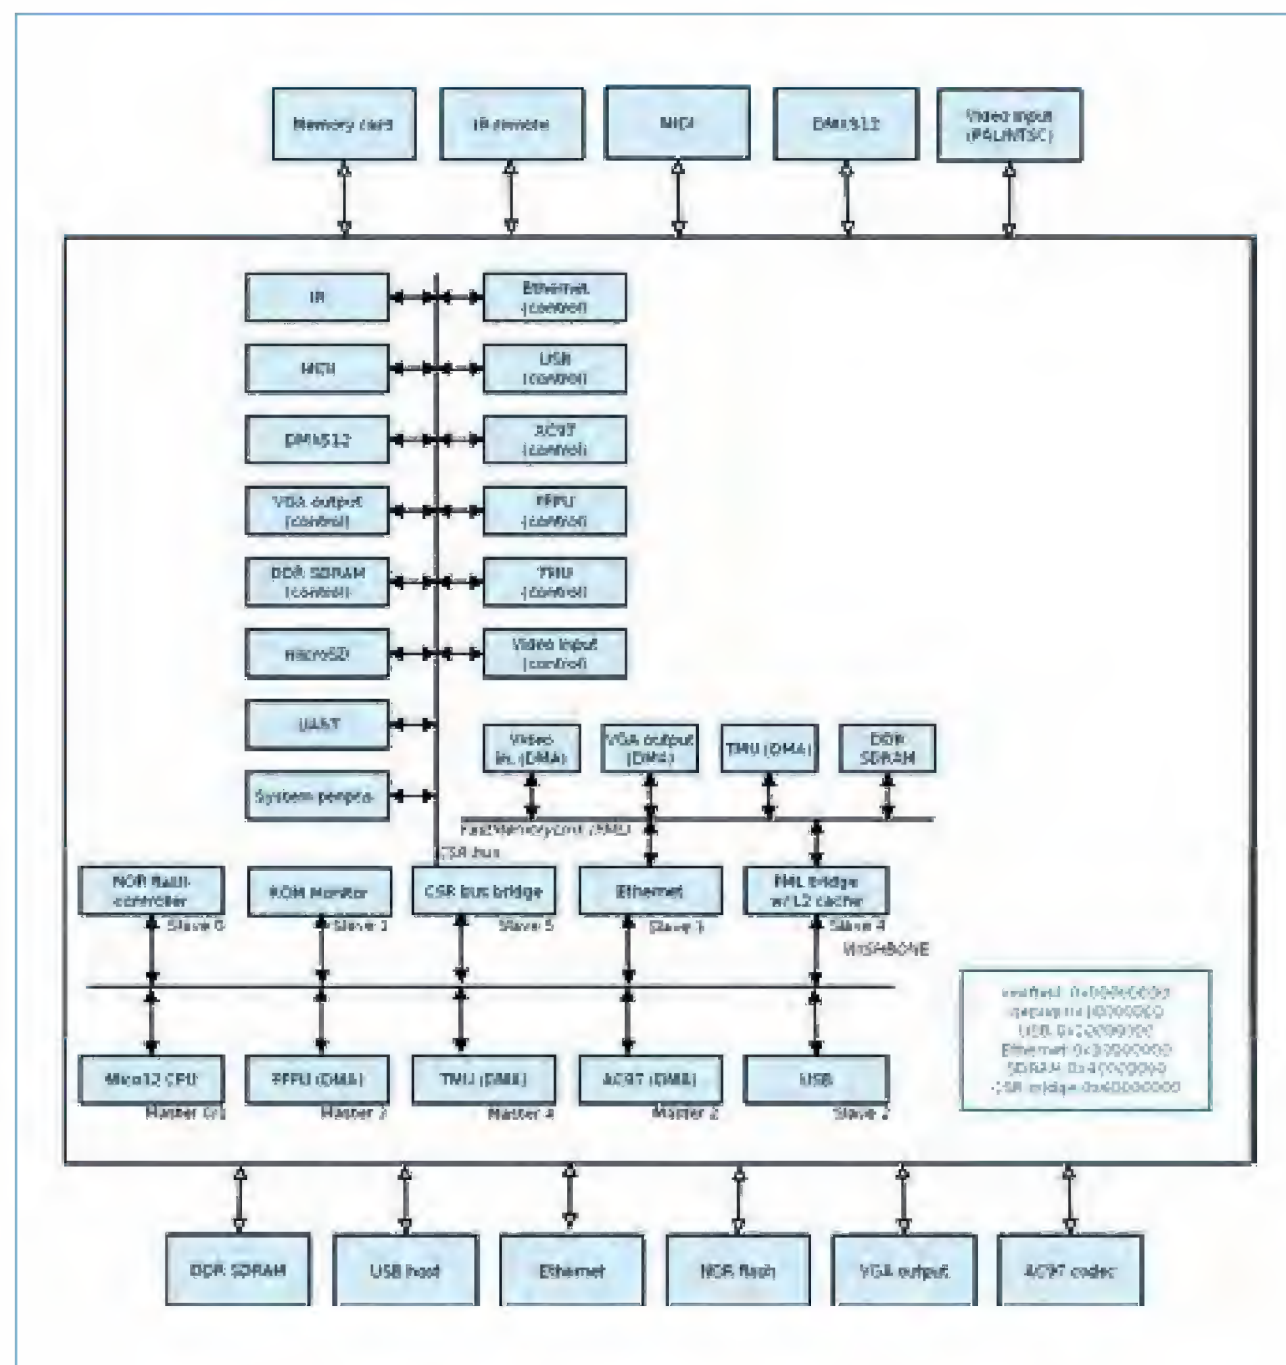

Figure 2. Internal architecture of Milkymist SoC.
3.3 V logic. Perhaps not a great deal compared to a typical development board, but this does all the same allow some interesting extensions – all the more so because, correctly programmed, the XC6SLX45 allows input/output frequencies of up to 1 GHz per line. The FPGA contains the whole of the Milkymist SoC (**Figure 2**). This is made up of a LatticeMico32 microprocessor core (32-bit RISC), IP blocks allowing all the Milkymist One peripherals to be controlled from the software, and graphics acceleration. Apart from the LatticeMico32 core, all the rest of the Verilog code has been developed specifically for Milkymist and placed under a GNU GPL licence.